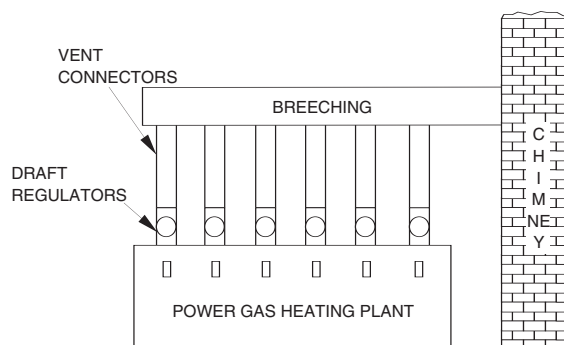

FIGURE 4.1
**MULTI-TEMP HEATING PLANT VENTING SYSTEM:** Consists of draft regulators (factory-supplied), vent connectors, breaching and chimney or vent pipe (see Figure 4.1). Draft regulators are installed between the modules's flue outlet and vent connector. Breaching is the horizontal manifold for connecting each module's vent connector to the chimney. Venting system components must be installed in accordance with requirements of the local authority having jurisdiction.